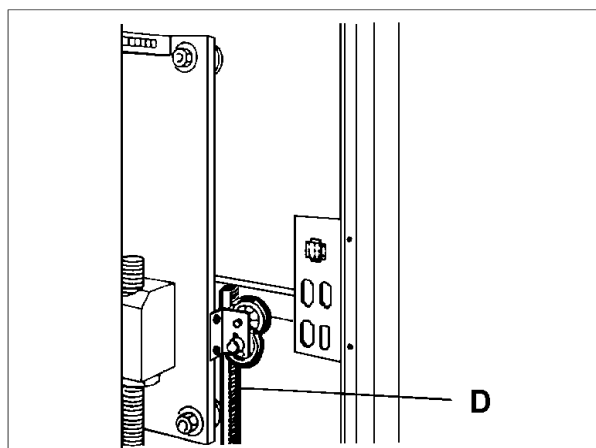

fig.7.8
- c.3) **DELTA 90-90PLUS only**. Grease the rack (D), see fig.7.8.